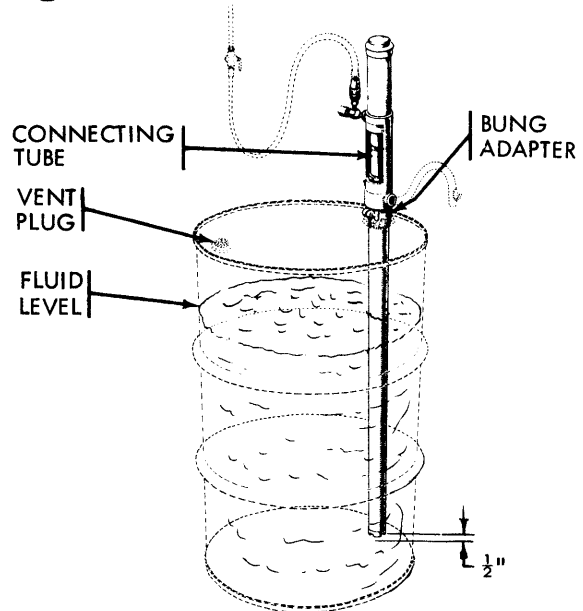
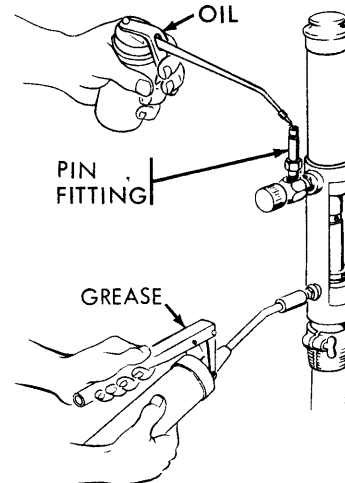

Fig. 2
Fig. 3
- (1) Screw the bung adapter tightly into bunghole and adjust to hold the pump $\frac{1}{2}$ in. off the drum bottom. When changing drums, keep the pump clean and check the $\frac{1}{2}$ in. clearance. See Fig 2.
- (2) Loosen the drum vent plug so a vacuum doesn't form in drum.
- (3) Check the fluid level in drum. Be ready to disconnect the air coupler as soon as the pump empties drum.
- (4) Oil the pump exhaust tube regularly. If air supply is dry, oil the air motor periodically by injecting 15 drops of light oil into the pin fitting. When pumping a non-lubricating fluid, grease the pump often through fitting on pump. See Fig 3.